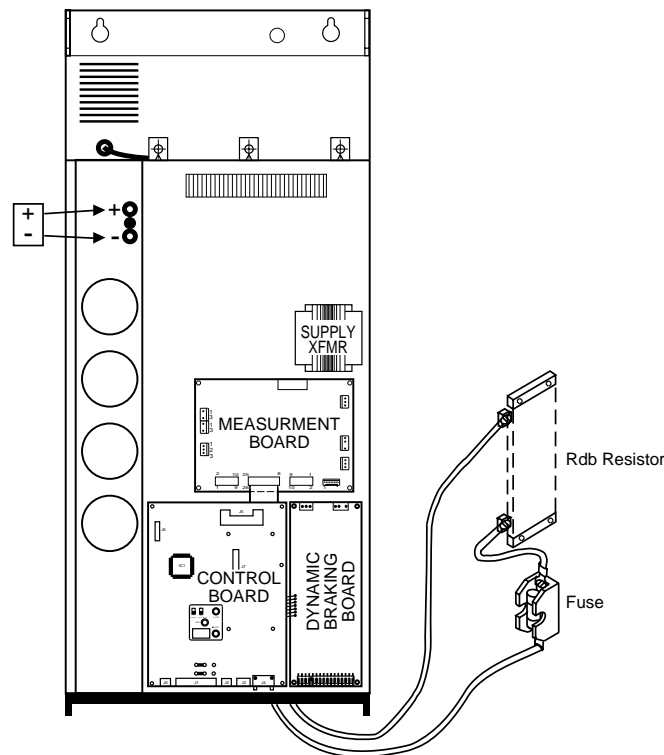

Figure 5-9 Dynamic Braking Board
5. Take the DB board, holding it so the components face up and the connectors face down. Via the lower part, slide it onto the two positioning blocks situated at the bottom of the enclosure, and then click the top of the board into position (see Figure 5-9).